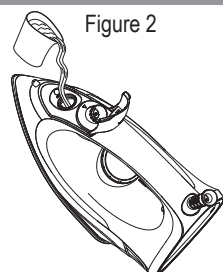

Figure 2
3. Set the Iron in the position indicated below (Figure 2) and fill it with water, no higher than the Max fill level shown on the See-Through Water Window.